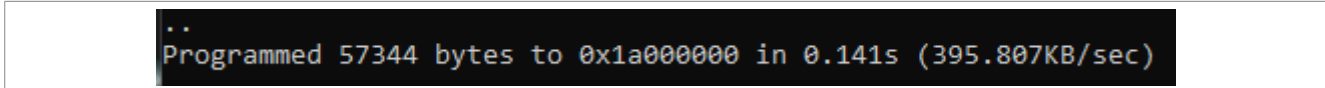

Figure 9. Result in message
9. After a few seconds, the result in a message is as shown in Figure 9.